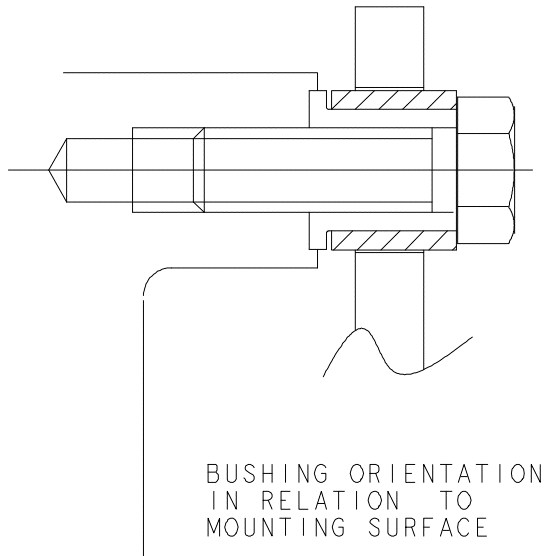

Figure 5
- 2.4.2 Apply Loctite® #243 and install socket head screw (28) and bushing (31), ONE AT A TIME, and torque to value in Table 3. Repeat and install remaining bushings. Refer to Figure 5 for proper bushing orientation.